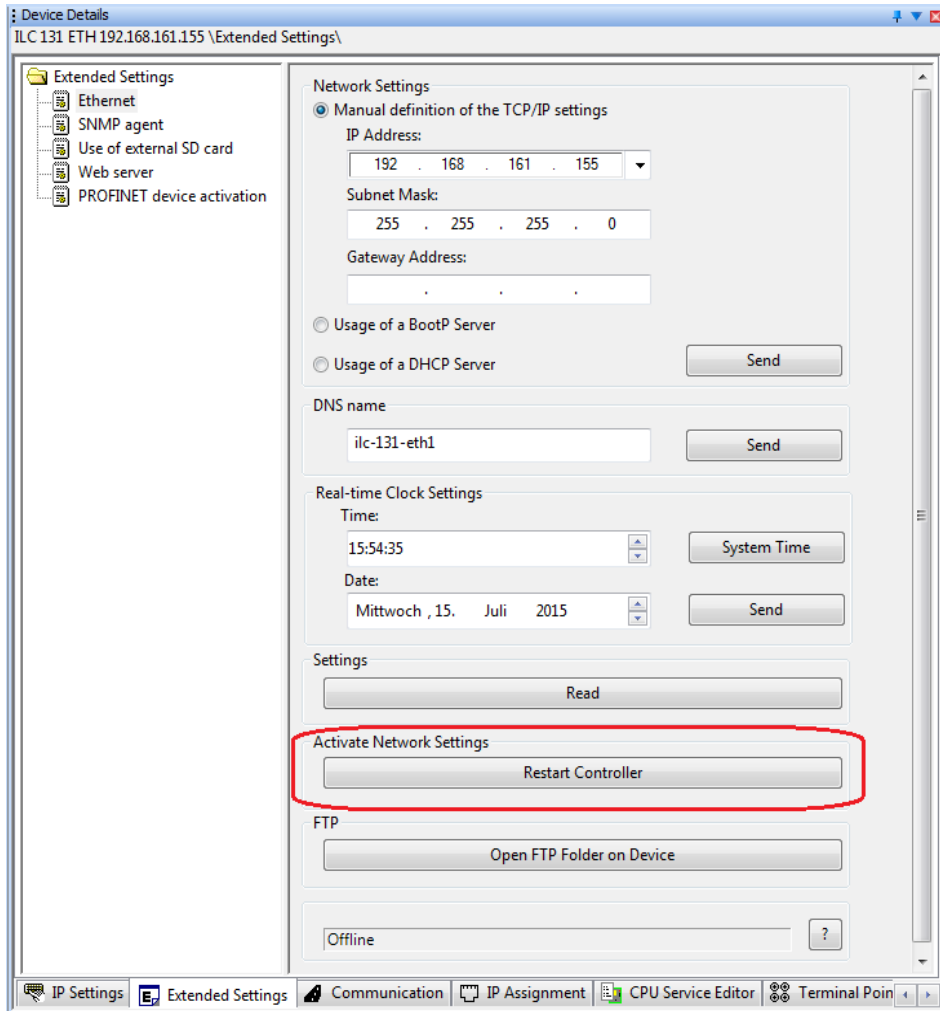

Figure 3-11 Activate Network Settings: Restart Controller
- In the "Device Details" window, select the "Ethernet" setting under "Extended Settings" (refer to Figure 3-11).
- In the "Activate Network Settings" area, click on the "Restart Controller" button (see Figure 3-11).